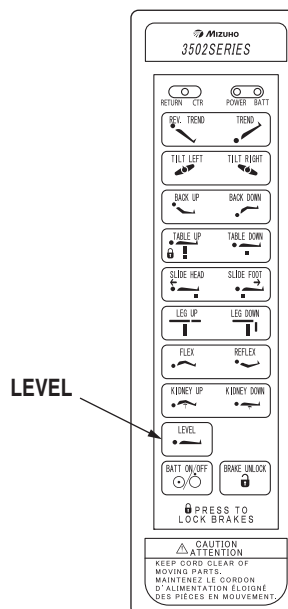

Figure 2-17. Return to Level
j. Return To Level To return the table top to a level position, press the LEVEL button (figure 2-17).